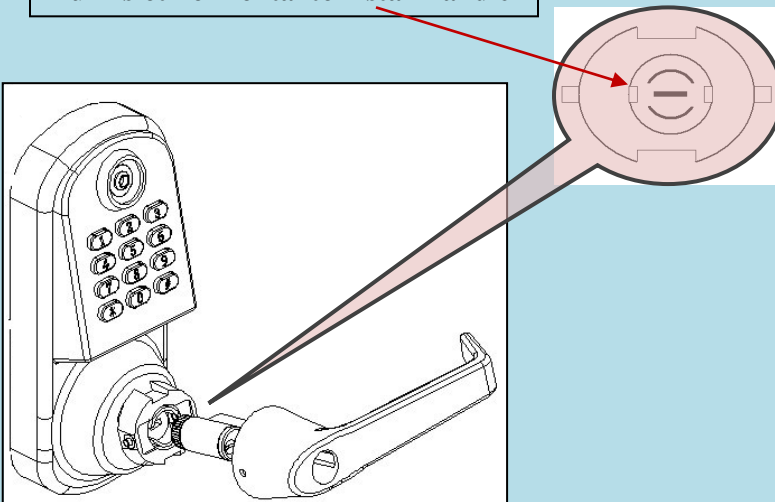

Fig 7
Place the override lock cylinder into front handle housing, insert override key through the hole into cylinder. Turn the override key 90° clockwise. Press both catch pin in and snap the front handle into drive shift. Turn override key 90° counter clockwise and pull the key out. (Fig 7) **Never disassemble the cylinder, regardless of left or right handle use.**